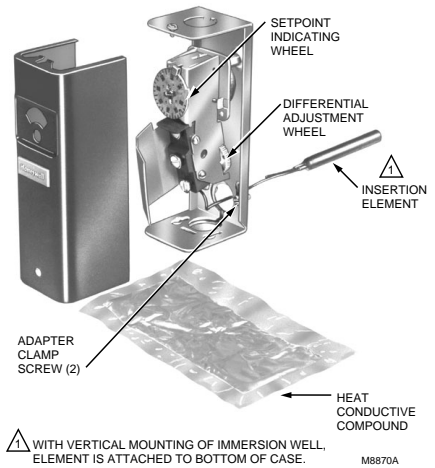

Fig. 1. Internal view of L6006A and accompanying components.
6. Loosen the screw (at the top of the case, above the scale setting), and remove the cover. Loosen the two screws that secure the adapter clamp (See Fig. 1).